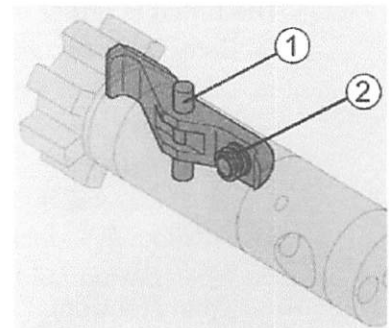

Fig. 51 Assembly position of the extractor spring with rubber bolt
- ⇒ When carrying out the assembly, pay attention to the correct assembly of the rubber bolt (Fig. 51/2) with the extractor spring.